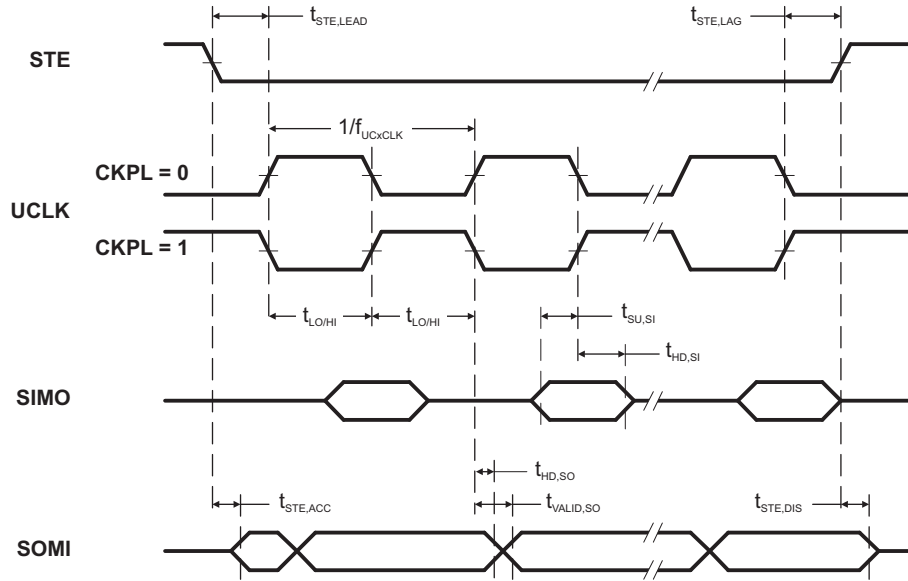
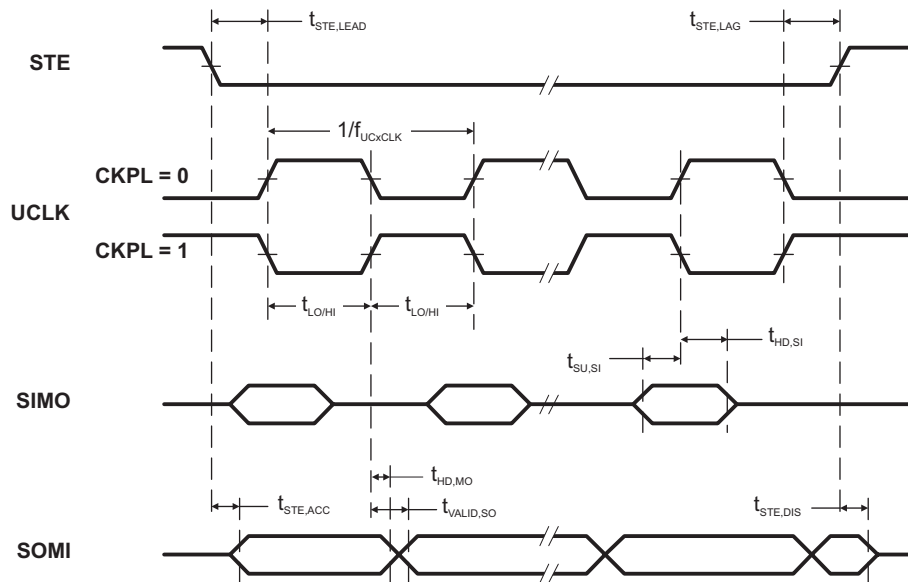

Figure 5-13. SPI Slave Mode, CKPH = 0
Figure 5-14. SPI Slave Mode, CKPH = 1
(see Figure 5-13 and Figure 5-14)
- (1)  $f_{UCxCLK} = 1/2t_{LO/HI}$  with  $t_{LO/HI} \geq \max(t_{VALID,MO(Master)} + t_{SU,SI(USCI)}, t_{SU,MI(Master)} + t_{VALID,SO(USCI)})$ . For the master parameters  $t_{SU,MI(Master)}$  and  $t_{VALID,MO(Master)}$ , see the SPI parameters of the attached slave.
- (2) Specifies the time to drive the next valid data to the SOMI output after the output changing UCLK clock edge. See the timing diagrams in Figure 5-13 and Figure 5-14.
- (3) Specifies how long data on the SOMI output is valid after the output changing UCLK clock edge. See the timing diagrams in Figure 5-13 and Figure 5-14.